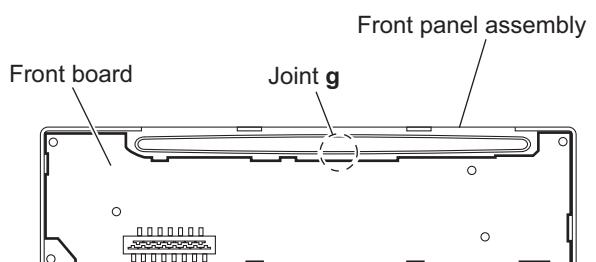

Fig.10
(3) Release the joint **g** and take out the front board from the front panel assembly. (See Fig.10.)